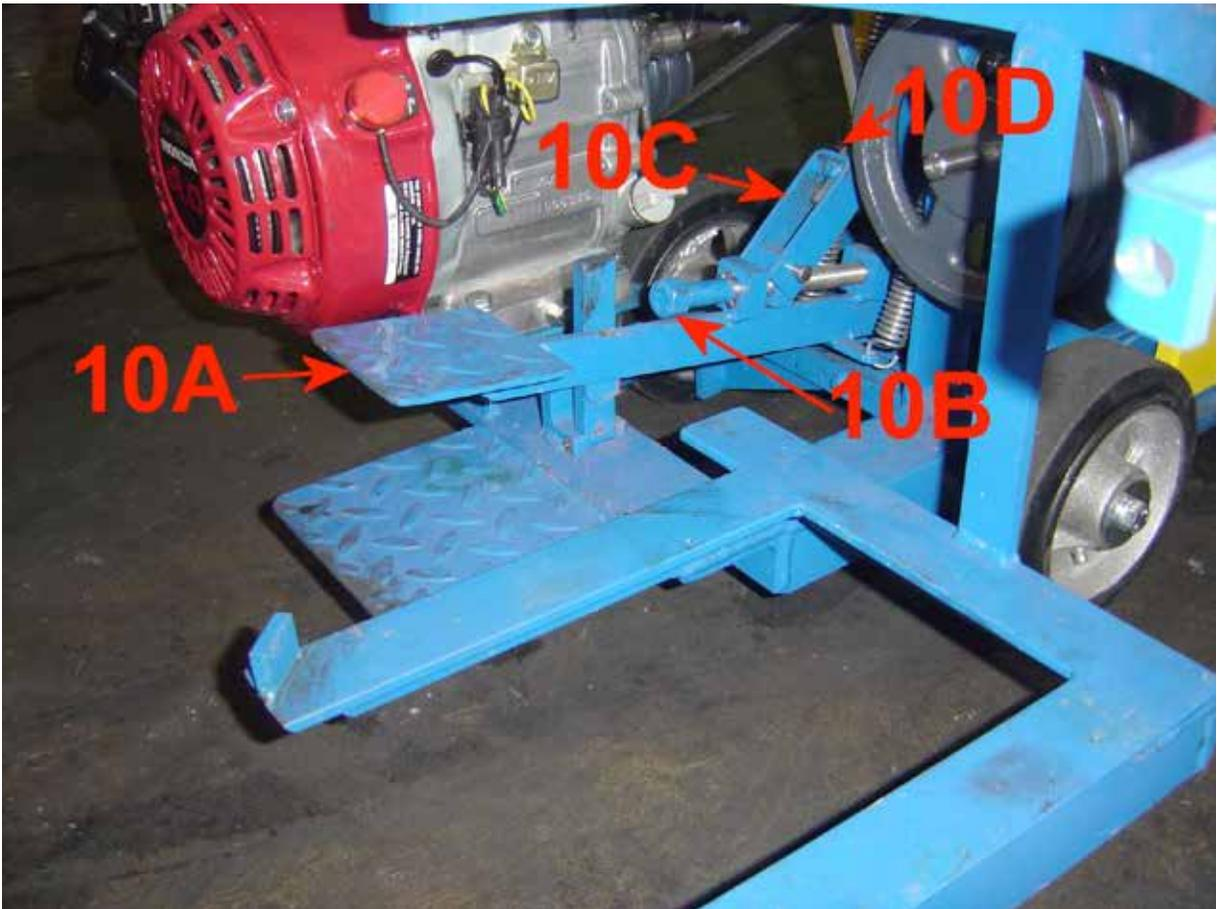

Figure 10 Adjusting Discharge Blade Depth
10. Lower the discharge blade to the operating position by stepping on the discharge blade foot pedal (10A) as shown in Figure 10.